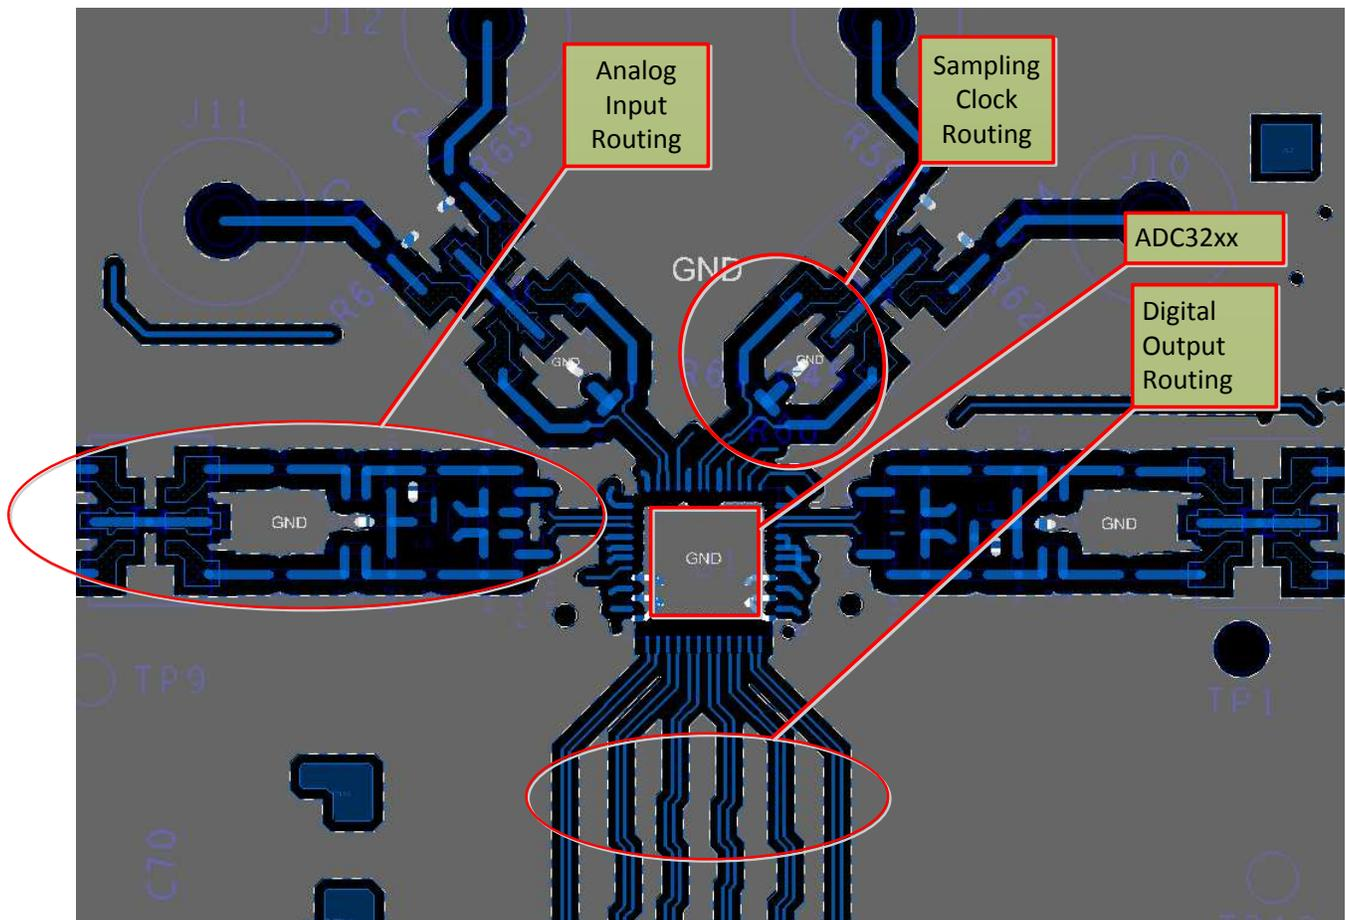

Figure 184. Typical Layout of the ADC324x Board
The ADC324x EVM layout can be used as a reference layout to obtain the best performance. A layout diagram of the EVM top layer is provided in Figure 184. Some important points to remember during laying out the board are:
1. Analog inputs are located on opposite sides of the device pin out to ensure minimum crosstalk on the package level. To minimize crosstalk onboard, the analog inputs must exit the pin out in opposite directions, as shown in the reference layout of Figure 184 as much as possible.
2. In the device pin out, the sampling clock is located on a side perpendicular to the analog inputs in order to minimize coupling between them. This configuration is also maintained on the reference layout of Figure 184 as much as possible.